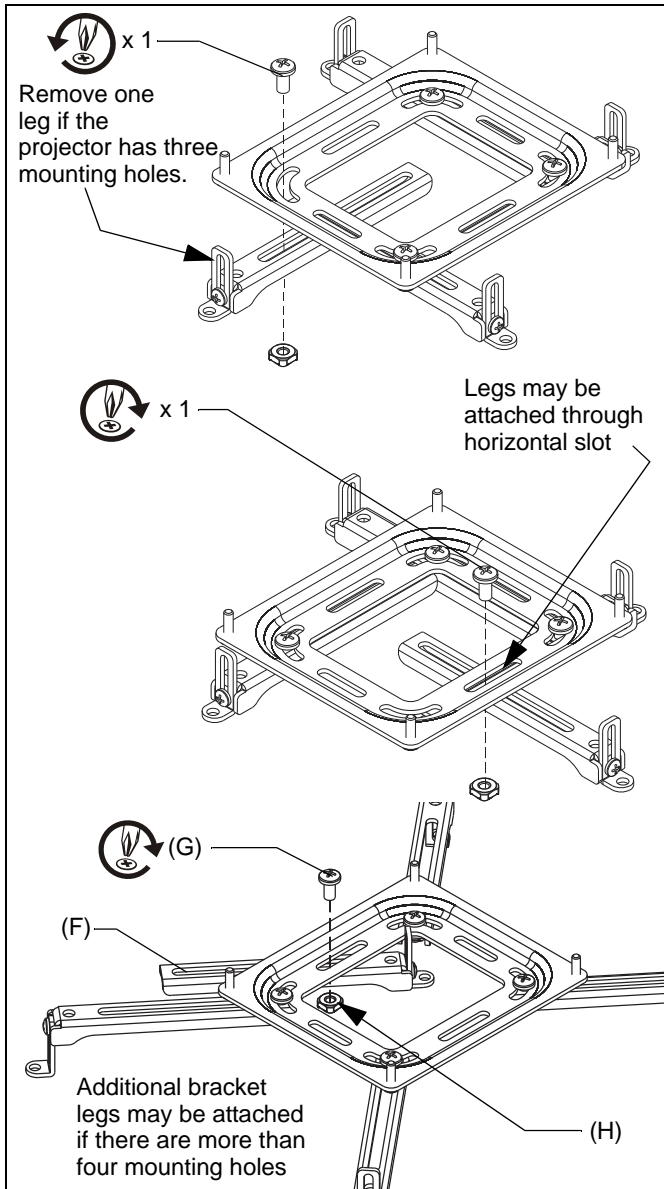

Figure 4
NOTE: Remove one Phillips screw, hex nut and leg if the projector only has three mounting holes. (See Figure 4)
NOTE: Add additional bracket leg(s) (F) (using one 1/4-20 x 1/2" Phillips head cap screw (G) and one square nut (H) per bracket leg) if projector has more than four mounting holes. (See Figure 4)
NOTE: If it is not possible to align the adjustable legs with the mounting hole pattern on the projector, a leg or legs may be moved and/or removed so that the interface bracket may be aligned using a horizontal slot. (See Figure 4)